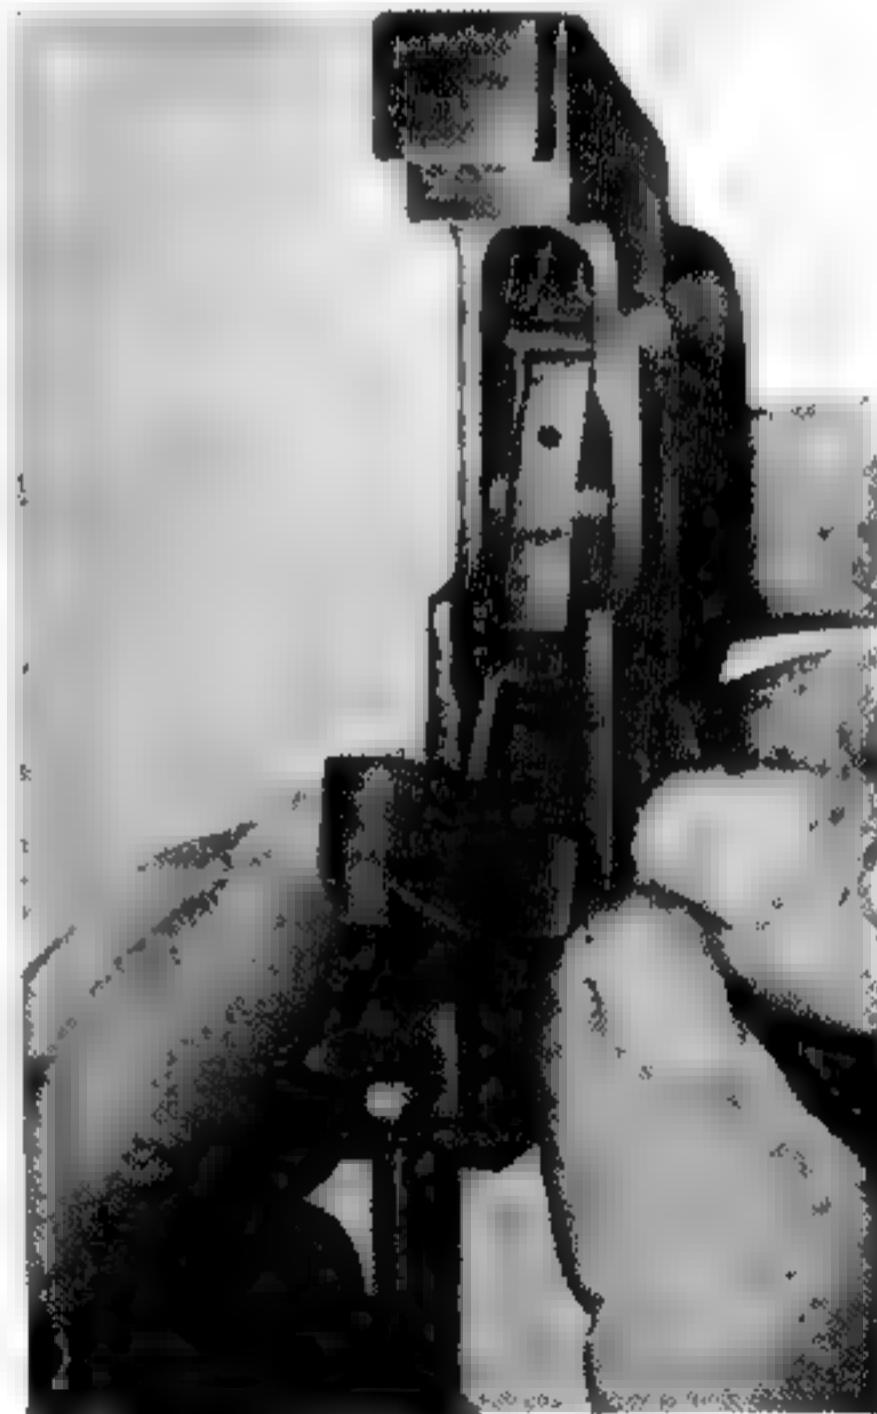

Figure 31. Replacing the hammer.
f. Replace the disconnector, making sure that its rear end is on top of the sear (Fig. 30). Replace the hammer with its long end up and curving to the rear (Fig. 31). Engage the sear notch of the hammer with the sear nose and rotate the hammer